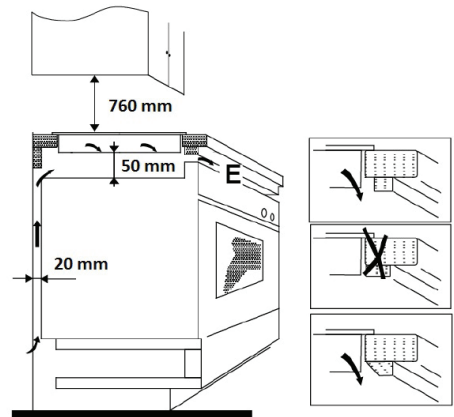

Fig. 8
5. A separate cabinet without a cooking hood should be at least 760 mm above the hob (Fig. 8).
6. For sufficient air circulation the appliance needs to be installed as shown in Fig. 8 and the cabinet must be designed so that the air can flow at the bottom. Make sure that the ventilation space of 20 mm, between the drawer and the rear wall and 50 mm between the drawer and the hob, is free (Fig. 8).